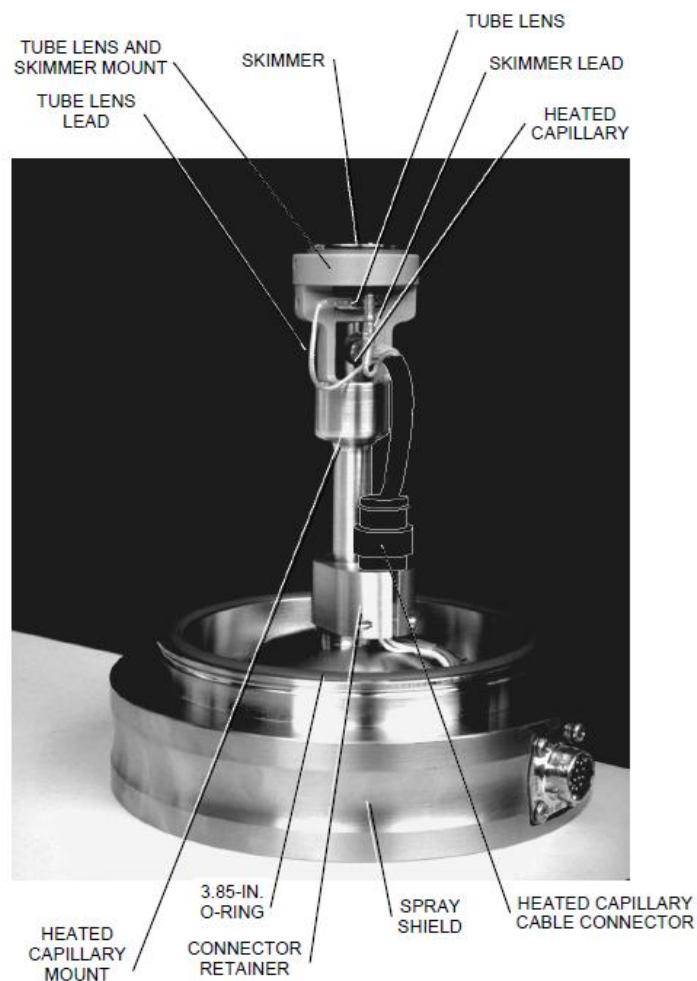
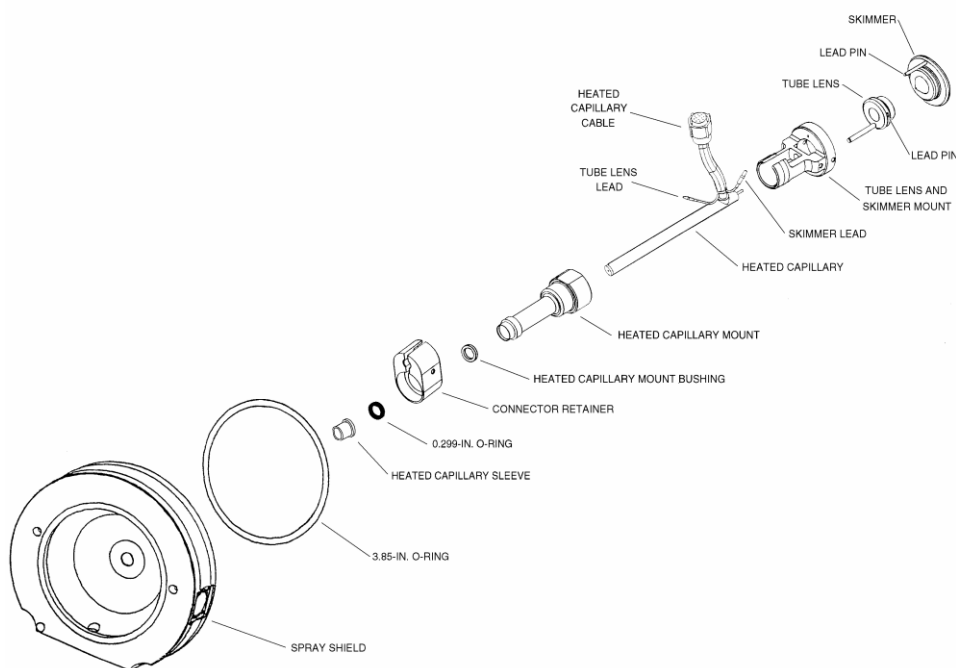

Figure 7. API stack components
Figure 8. Exploded view of the API stack.
- 8.2.2.1. Wear a clean, lint-free, nylon or cotton gloves when handling the API stack components. Refer to Figure 7 and Figure 8 for the location of the various API stack components.
- 8.2.4.5. Insert the heated capillary, heated capillary mount, heated capillary mount bushing, O-ring and heated capillary sleeve through the connector retainer and into the spray shield until the heated capillary and heated capillary sleeve protrude from the atmospheric pressure side of the spray shield. Make sure that the heated capillary cable is on the same side as the connector on the connector retainer. See Figure 7.
- 8.2.4.7. Reconnect the heated capillary cable to the connector that is held by the connector retainer. Turn the locking ring on the cable clockwise to lock the cable. See Figure 7.